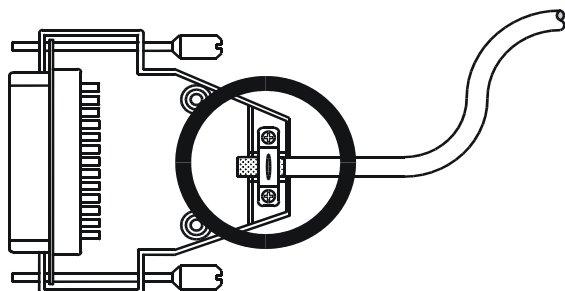

Fig. 1: Shielding of SUB-D connectors in conformity with the EMC standards
- Only use metallised connectors, e.g. SUB-D with metallised housing. Make sure that the strain relief is directly connected with the housing here as well (see Fig. 1).